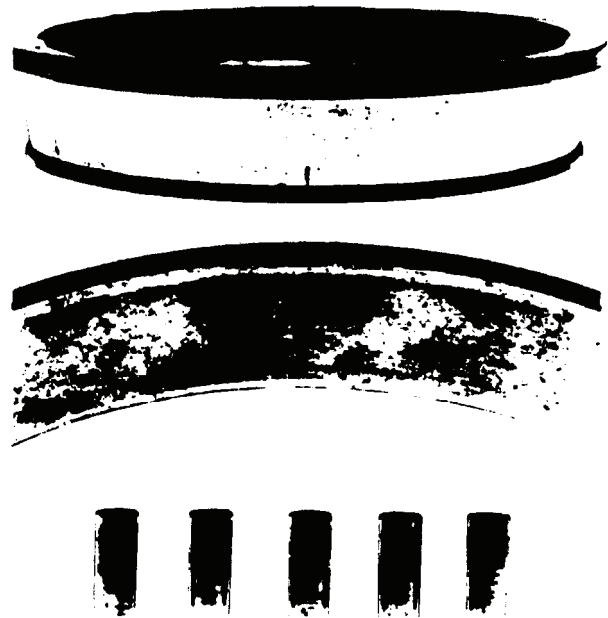

Figure 43.
- (2) Visible step wear, particularly at the small end of the roller track or deep indentations, cracks or breaks in the bearing cup and /or cone surfaces. Refer to Figure 43.